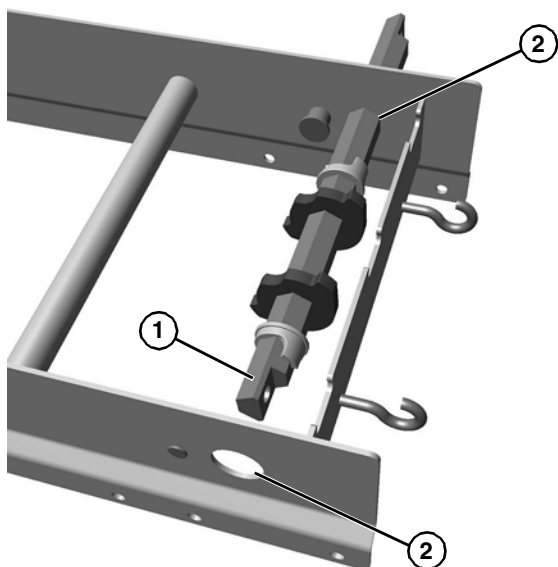

Figure 18
- Place hex shaft assembly (**Figure 18, item 1**) through the conveyor frame tip up holes (**Figure 18, item 2**) and center with conveyor.